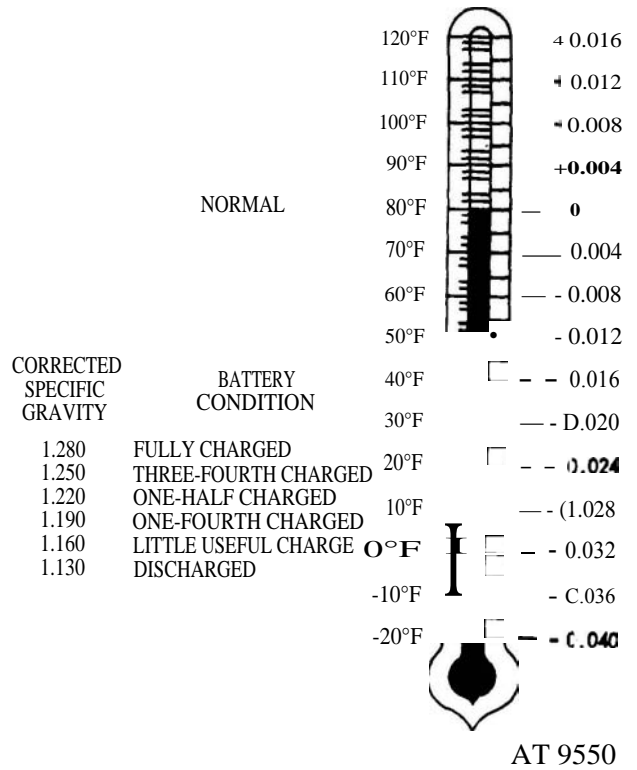

Figure 2-20. Hydrometer temperature correction chart.
(3) When water is added, it will tend to remain at the top of the cell and a hydrometer reading will be inaccurate. If it is necessary to add water to the battery before taking a reading, the battery should be charged for 1 or 2 hours to mix the electrolyte before the hydrometer is used. This may be done by connecting the battery to a charger or by operating the vehicle.
(4) Gravity readings may also be misleading if taken immediately after a battery has been discharged at a high rate, such as in prolonged cranking. Wait several hours before taking a specific gravity reading.
(5) When the temperature of the electrolyte is much greater or much less than 80°F, the specific gravity indication on the hydrometer will not be accurate. A temperature correction must be applied to the reading to obtain the correct specific gravity. Figure 2-20 shows the amount of temperature correction to be applied, and how to estimate the condition of the battery from the temperature-corrected specific gravity.